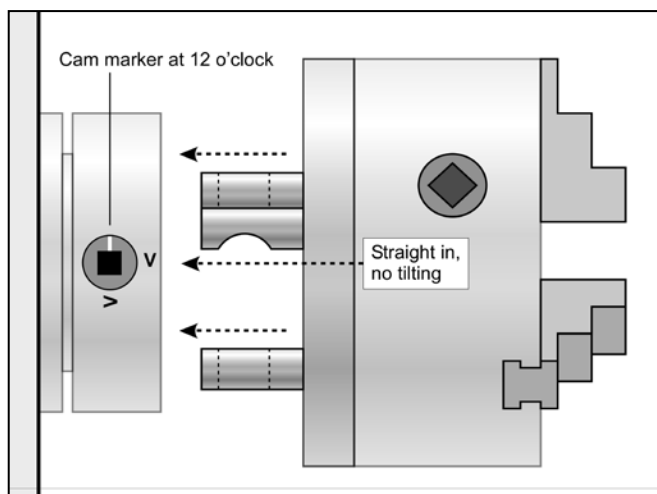

Figure 3-7 Installing a Camlock chuck
3. While **supporting its full weight**, install the chuck without tilting, see Figure 3-7, then gently turn each of the cams **clockwise** — snug, firm, but not locked in this first pass.
Protect the lathe bed, as Figure 3-6. While supporting its weight, turn each of the cams to 12 o'clock, Figure 3-7, then remove the chuck. If the chuck does not come free, try tapping the backplate gently with a soft (dead blow) mallet.